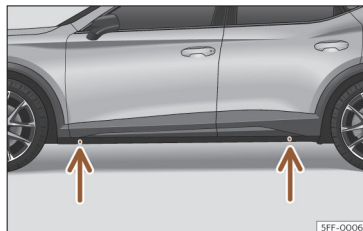

Fig. 229 Jack position points.
- Look on the strut for the mark of the jack support point (sunken area) closest to the wheel to be changed >>> **Fig. 229**.